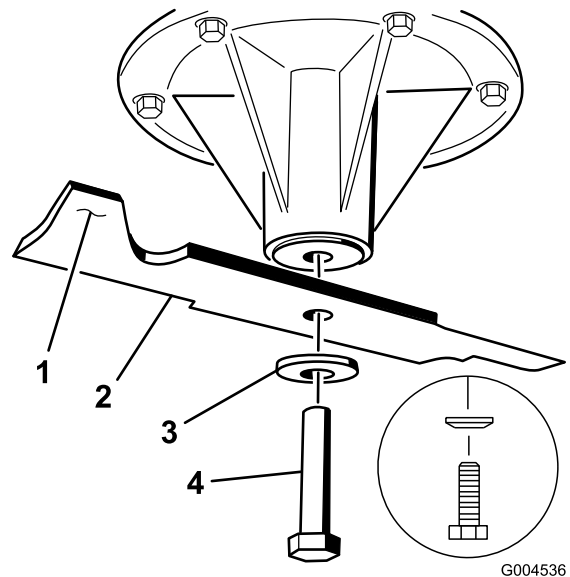

Figure 89
1. Install the blade onto the spindle shaft (Figure 89).
2. Install the spring disk and blade bolt. The spring disk cone must be installed toward the bolt head (Figure 89). Torque the blade bolt to 85-110 ft-lb (115-150 N-m).